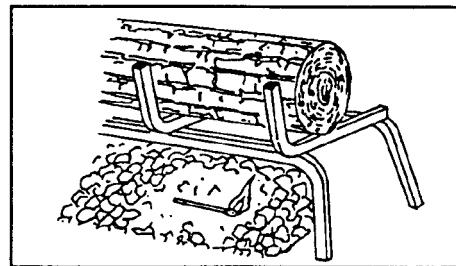

Figure 8. Lighting the log set
- C. Wait five (5) minutes to clear out any gas. If you then smell gas, STOP! Follow "A" in the safety Information above on this label. If you don't smell gas, go to the next step.
- D. Place a burning match on the surface of the burner embers (see figure 8). **Do not hold match in hand.** Turn the manual gas valve counterclockwise  to the ON position.